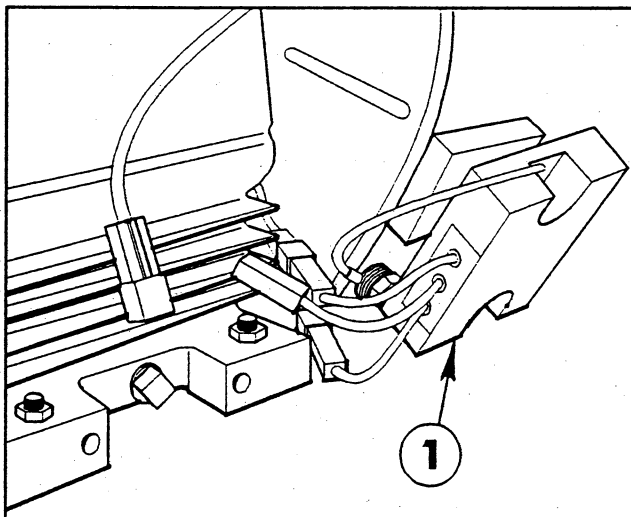

FIG. 1
2. Disconnect the red wire on the engine's regulator/rectifier from the black wire as shown in FIG. 1. Cap the wires with mating plugs furnished and seal with silicone.